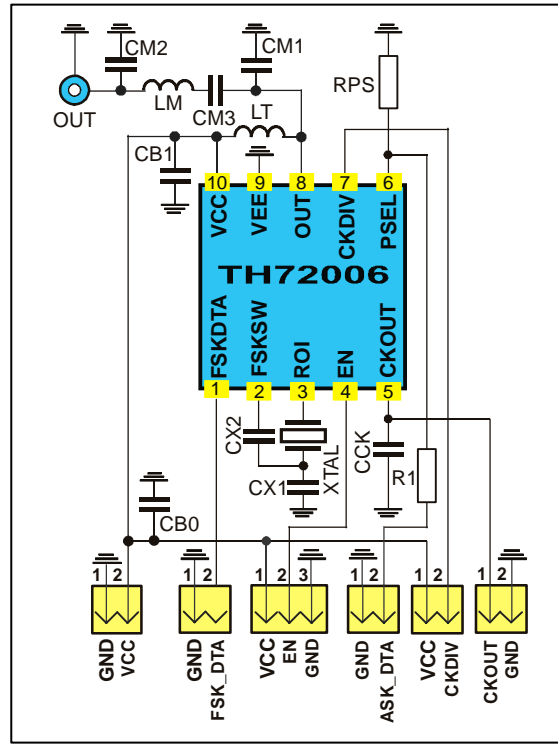

Fig. 6: Test circuit for FSK and ASK with 50 Ω matching network
typical values at $T_A = 23\text{ }^\circ\text{C}$ and $V_{CC} = 3\text{ V}$; test circuit shown in Fig. 6, $f_c = 315\text{ MHz}$
typical values at TA = 23 °C and VCC = 3 V; test circuit shown in Fig. 6
5.1 Test circuit component list to Fig. 6